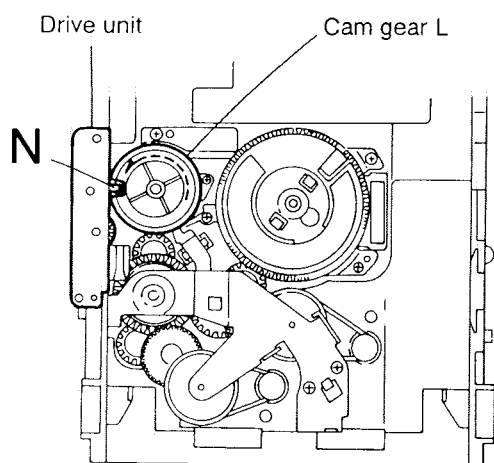

Fig.5-50
(See Figs. 5-50~5-52)
2. While turning the cam gear L, align the pawl "N" position of the drive unit to the notch position (Fig. 5-50) on the cam gear L.